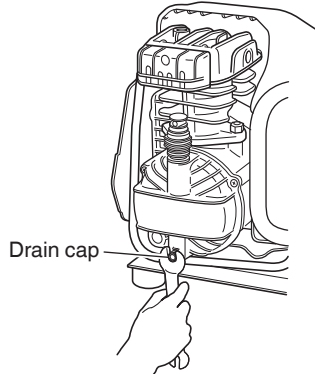

Fig. 10
- (1) Within the first 50 hours of operation, completely replace the oil of the pumping element. Unfasten the oil drain cap on the carter cover, drain all the oil, and screw the cap back on (Refer to Fig. 1 and to Fig. 10)